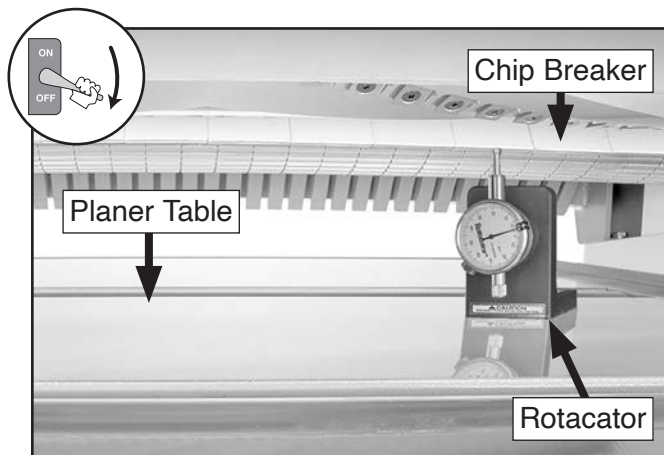

Figure 98. Rotacator placed underneath chip breaker (as viewed from rear) (G0988 shown).
2. Position Rotacator/dial indicator on table underneath chip breakers (see **Figure 98**).